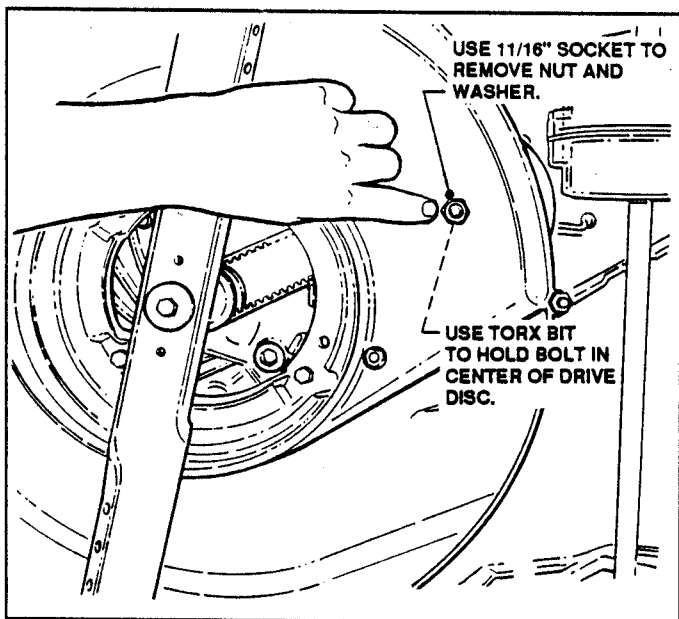

FIGURE 25
13. Using a TMTORX bit to hold the inside of the Drive Disc bolt, remove the nut and washer from underside of mower with a 11/16" socket. See Figure 25.